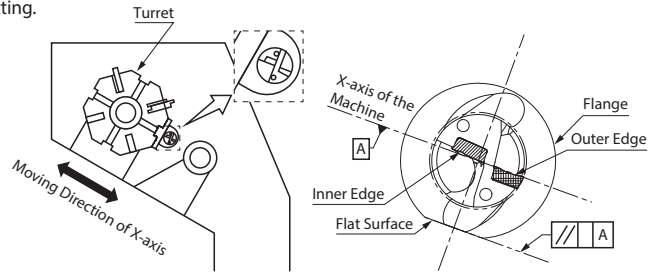
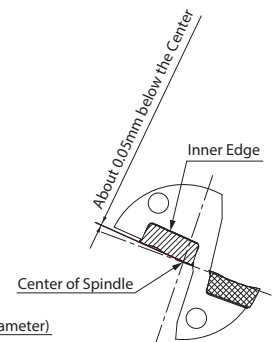

Fig.1 Installed into the Lathe
Fig.5 Front View of the Drill
- Align the scale at the flange periphery of the sleeve to the center of the coolant plug of the drill.(Fig.1)
2. It is recommended to set the outer insert as shown in Fig.1 with the outer insert facing the operator. (Fig.1)
- When installing inner insert as shown in Fig.1, it will be set around 0.05mm below the Center of Spindle. (Fig.5)